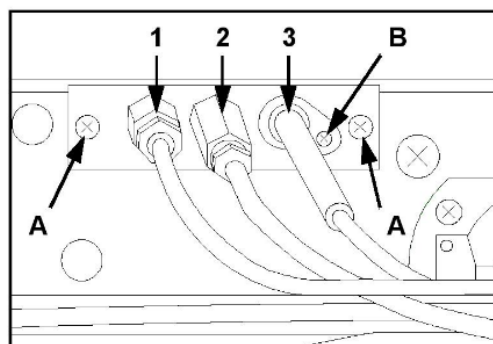

FIG.18 (Substitution thermocouple, pilot and plug)
- Unscrew the thermocouple with an appropriate spanner (**FIG.18-Ref.1**);
- Unscrew the 2 supporting screws (**FIG.18-Ref.A**) fix the new pilot;
- Fix the new pilot following the above procedure (**FIG.18-Ref.2**) .
- Remove the plug unscrewing the screw (**FIG:18-Ref.B**);
- Fix the new plug (**FIG.18-Ref.3**) following the above procedure.